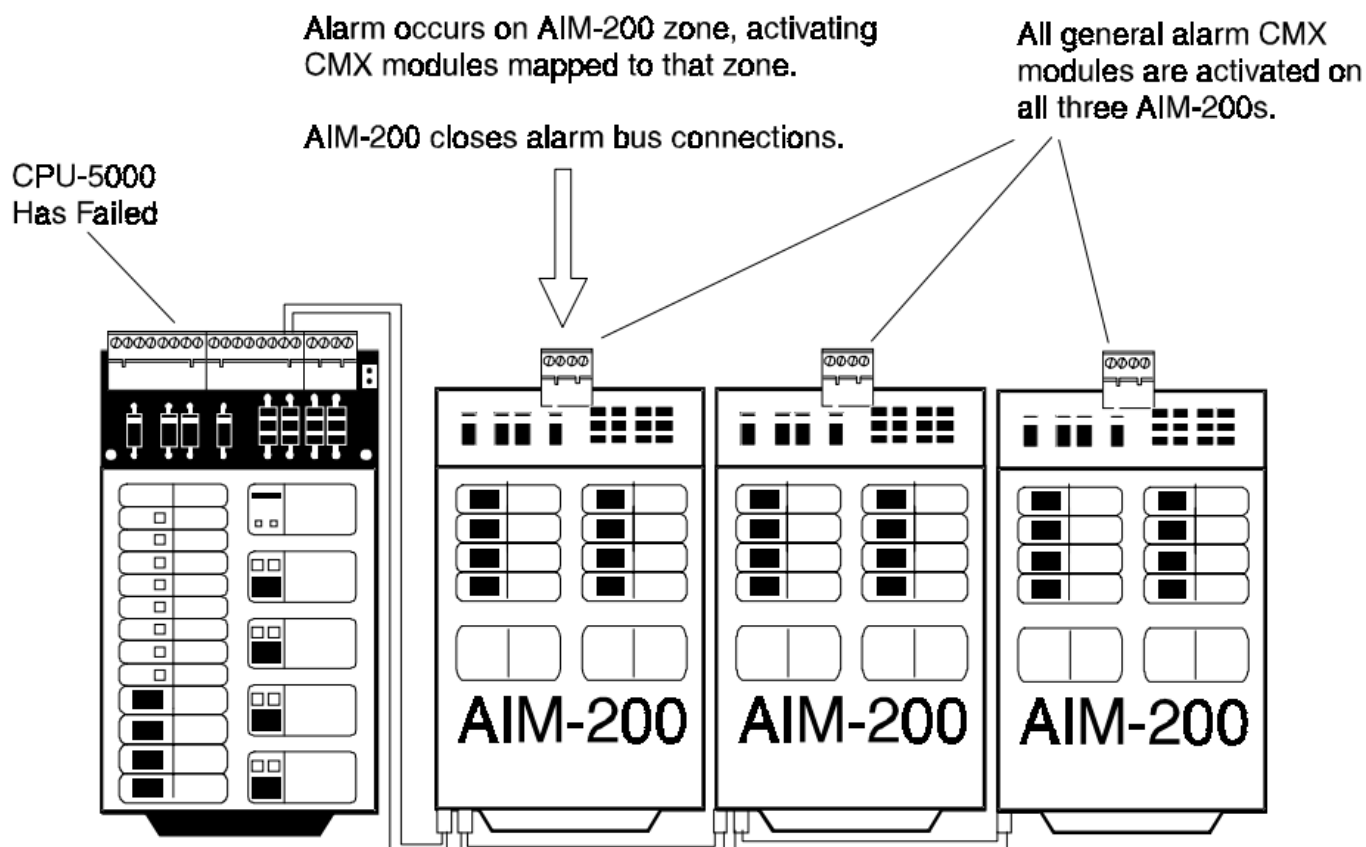

Figure A-1: Alarm Bus Activity
3. The CPU alarm relay must be programmed as silenceable, permitting the silencing of general alarm modules with software type  (see Figure A-1).